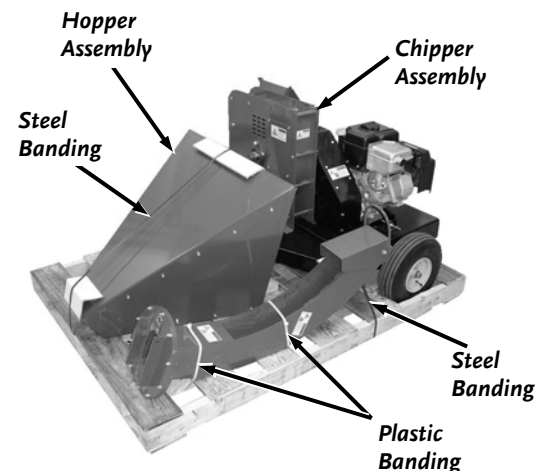

Figure 6
5. Carefully cut the Steel banding holding the machine and Hopper Assembly to the pallet (*Figure 6*).